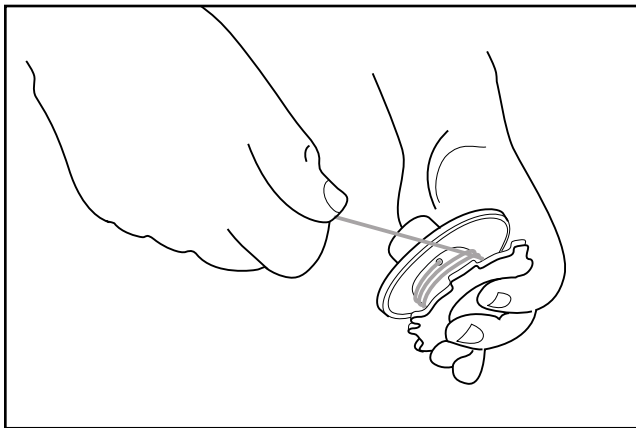

**Fig. 16**
3. Check the indexing teeth on the inner reel and outer spool for wear (Fig. 16). If necessary, deburr or replace the spool and reel.
4. Use a clean cloth to clean the inner surface of the outer spool (Fig. 16).